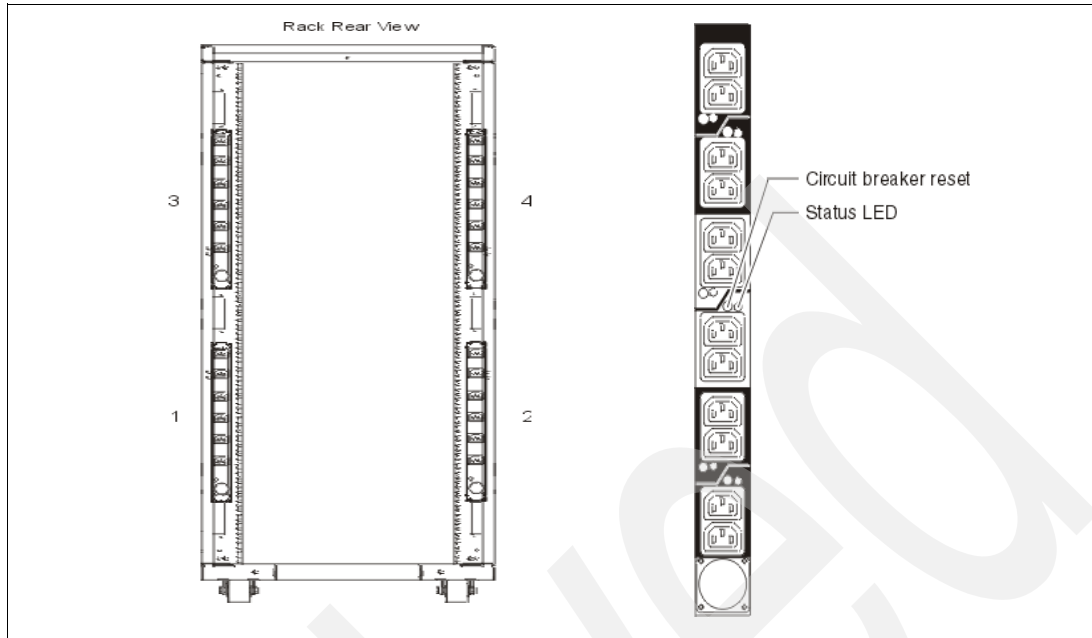

Figure 1-3 PDU placement and PDU view
- ▶ Up to four power distribution units (PDUs) can be mounted in the PDU bays (see Figure 1-3 on page 13), but others can fit inside the rack. See 1.4.3, “The ac power distribution unit and rack content” on page 12.
Four PDUs can be mounted vertically in the T00 and T42 racks. See Figure 1-3 on page 13 for the placement of the four vertically mounted PDUs. In the rear of the rack, two additional PDUs can be installed horizontally in the T00 rack and three in the T42 rack. The four vertical mounting locations will be filled first in the T00 and T42 racks. Mounting PDUs horizontally consumes 1U per PDU and reduces the space available for other racked components. When mounting PDUs horizontally, we recommend that you use fillers in the EIA units occupied by these PDUs to facilitate proper air-flow and ventilation in the rack.